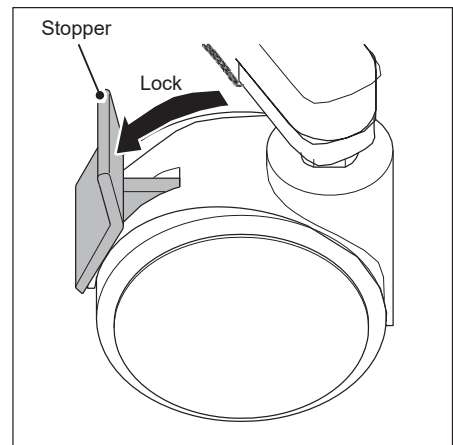

Figure 1-2
1. Lock all casters of the Cart with each stopper. (Figure 1-2)